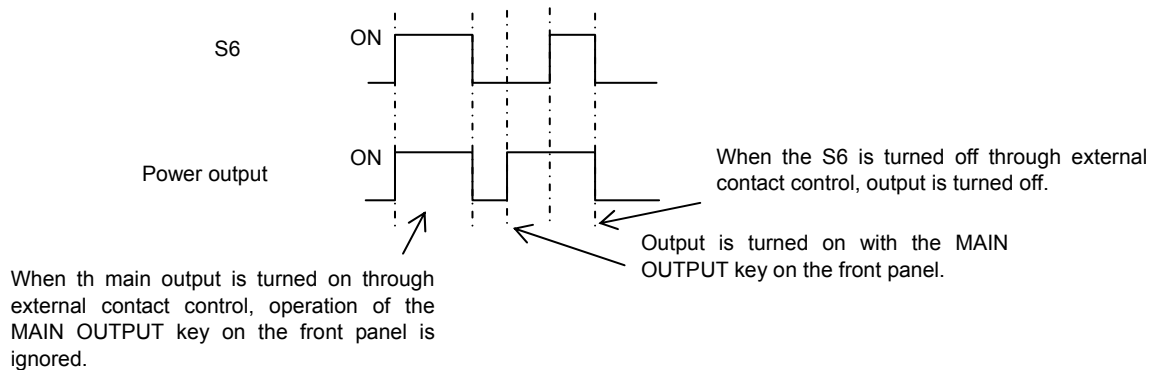

Fig.11 Relationship between S6 and the MAIN OUTPUT Key on Front Panel.
- Fig.11 shows the relationship between S6 and the MAIN OUTPUT key on the front panel.